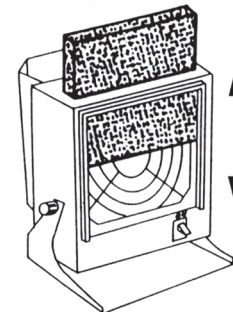

Fig. 3.
3. Slide in the Filter as shown in Fig. 3.